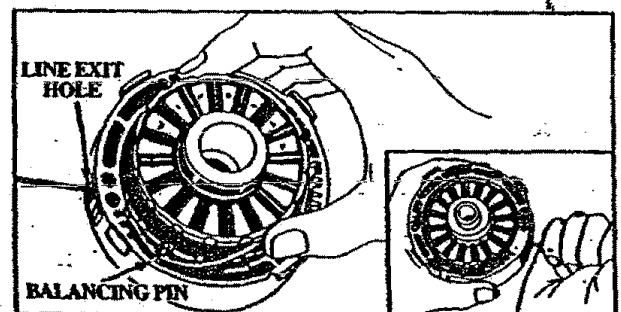

Figure 22
- Insert about 6 inches of Line from the inside of the Hub through the Line Exit Hole to the outside to keep the Line from backing into the head. Figure 22.
- Route the Line behind the Balancing Pin (Figure 22) while carefully placing the Spool in the Hub.
- Pull on the Line extending outside the Hub to make sure the Line will not advance. See Inset, Figure 22. This indicates that the Line is routed properly.
- Pull on the Line again from outside the Hub. If the Line can be pulled from the assembled head, it is not properly routed around the Balancing Pin and will feed continuously when the Trimmer Head turns. Remove Cover and re-route Line as shown in Figure 22.